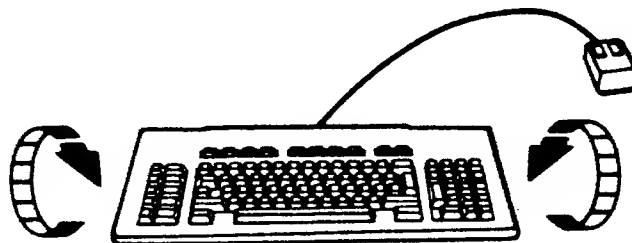

Figure 2-7. Top View of Keyboard
3. Turn the keyboard over (Figure 2-7).